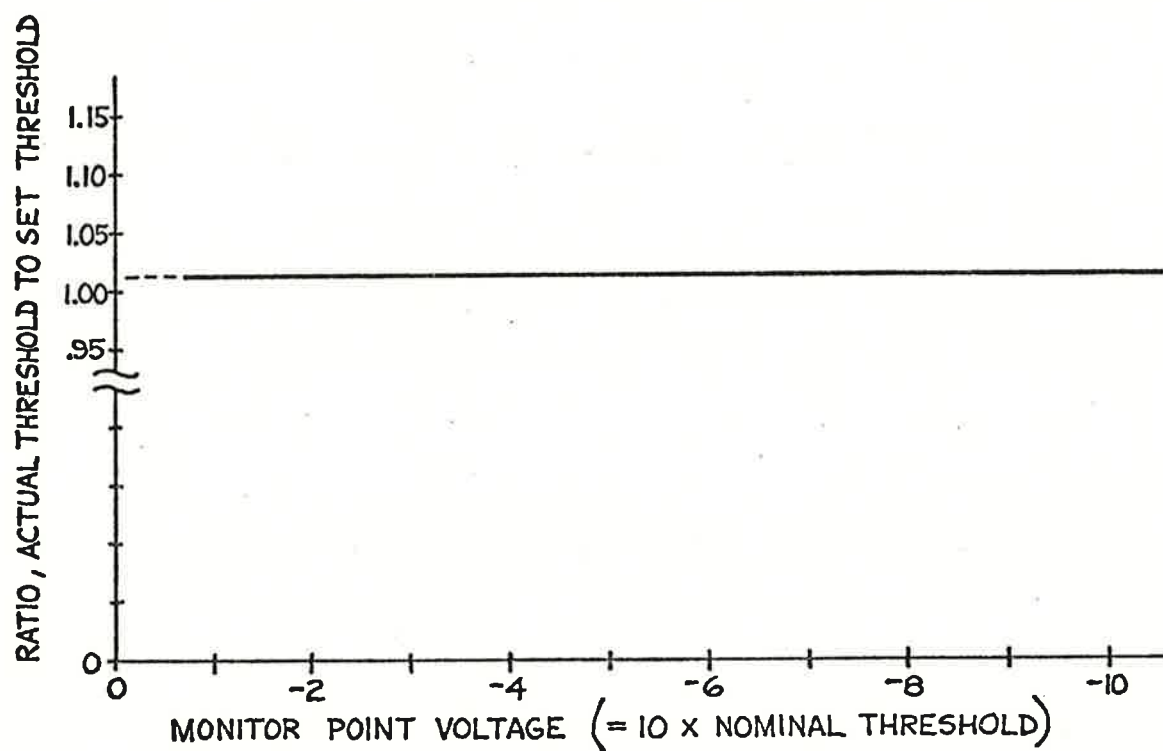

FIGURE 3
**Threshold Calibration:** Determination of the input threshold set by the front panel control has typically required the experimenter to calibrate each change in setting with an external pulse source and oscilloscope. Newer discriminators offer a front panel test point whose dc level is proportional to the actual discriminator threshold. Not only does this allow rapid and simple determination of threshold, but it also allows the experimenter to easily return the threshold level to a previously recorded setting. The convenience, and therefore the usefulness, of this feature is strongly dependent upon the characteristics of this monitor voltage, particularly its linear proportionality with the threshold setting. Figure 3 indicates the characteristic curve for the LeCroy Model 620 series discriminators.